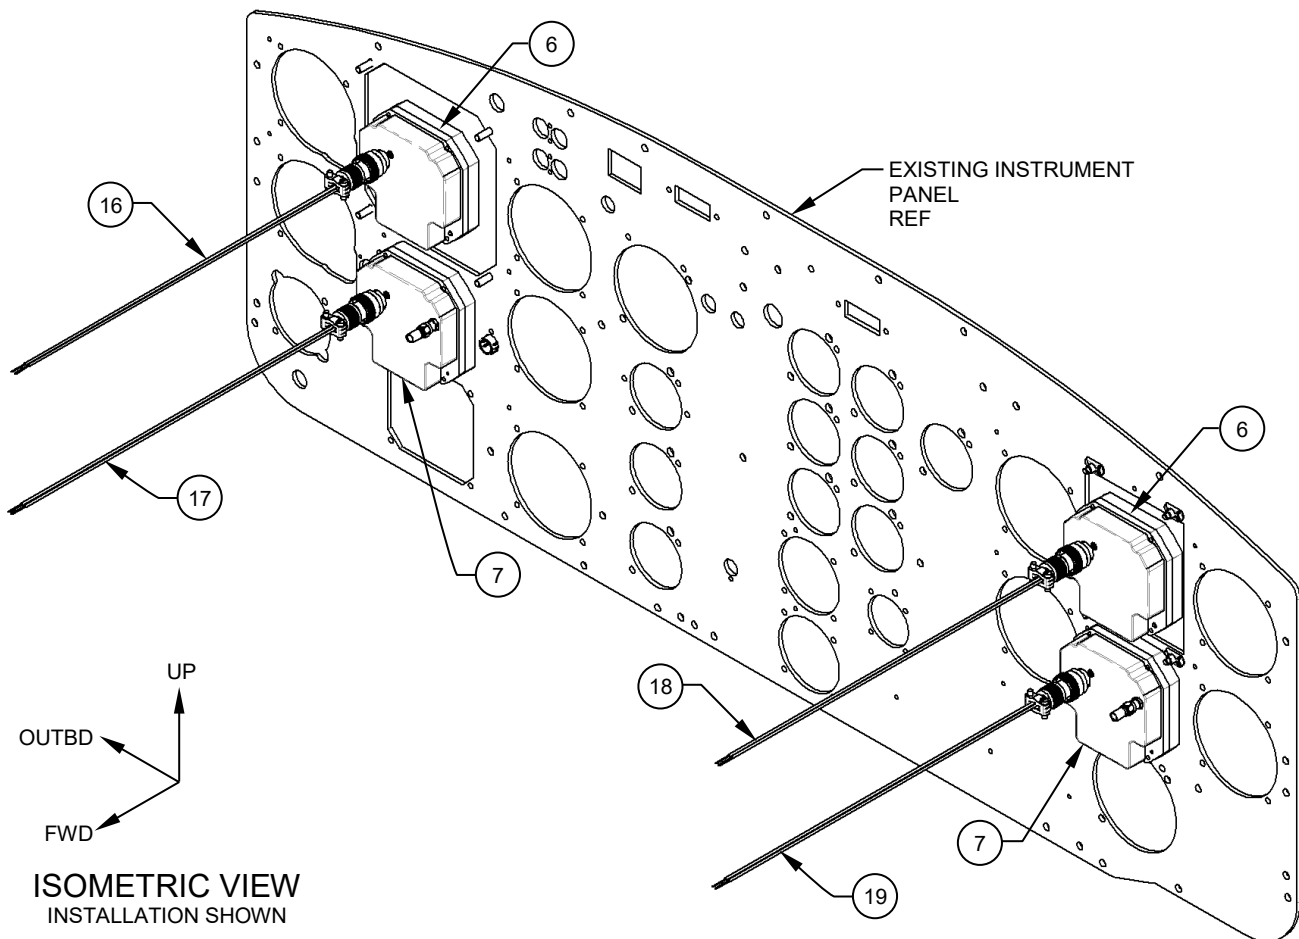

Figure 4
2. Disconnect the Wiring Harnesses (Items 16, 17, 18 & 19) and associated Coax Cables (Item 14 & 15) and temporarily stow them. Reference Figure 4 and Appendix A.
3. On the RHS of the cockpit, remove all fasteners (Item 2) common to the Adaptor, Detail (Item 1) and remove the Adaptor, Detail, and the Attitude Indicator (Item 7) from the instrument panel as a unit. Remove the Heading Indicator directly from the existing instrument panel. Reference Figures 4 & 5.